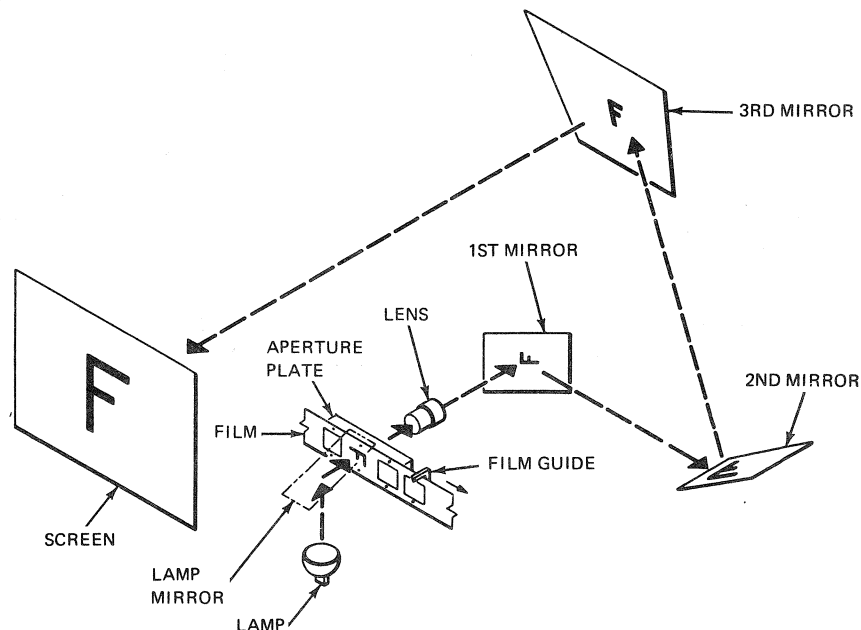
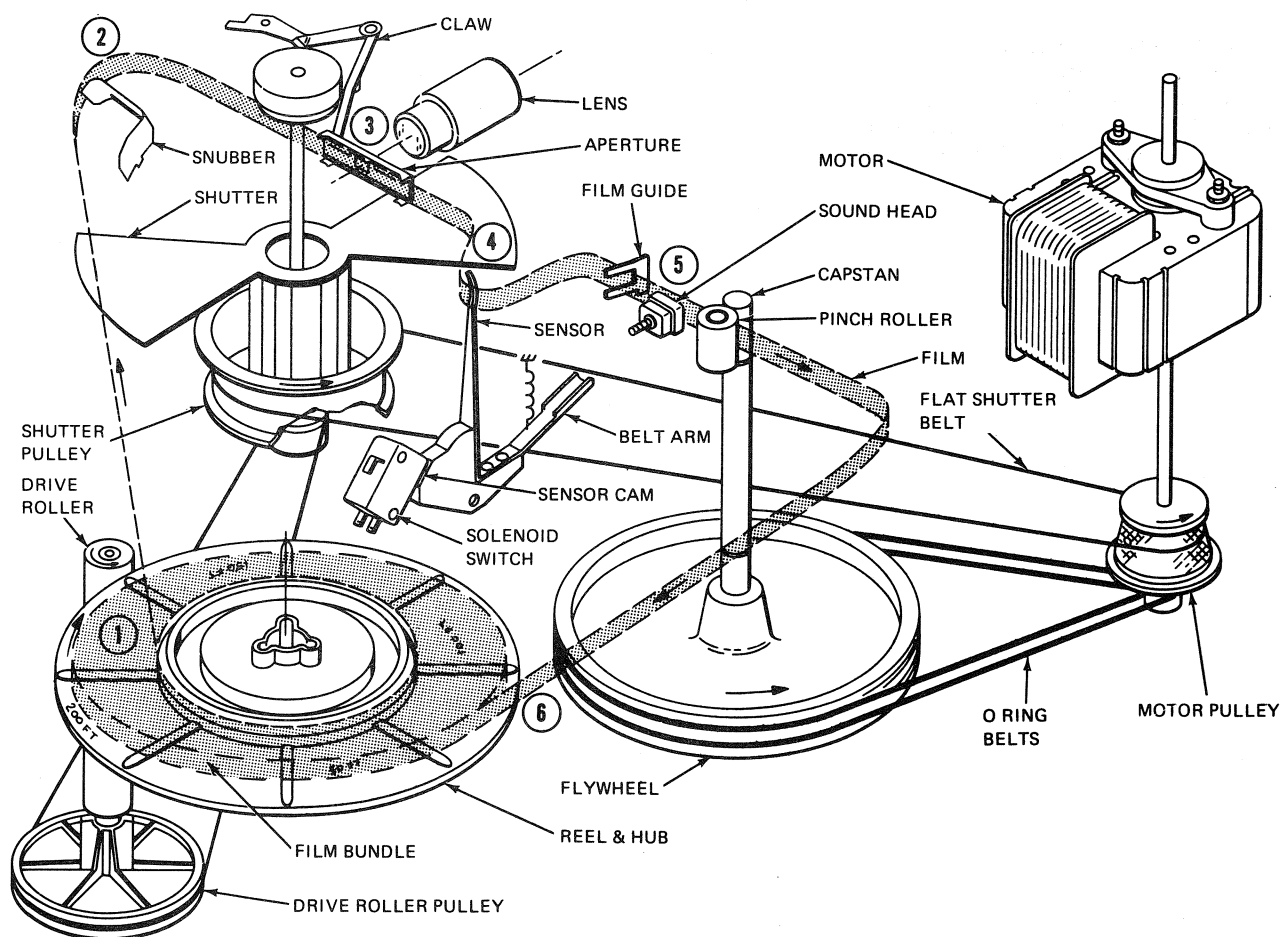

Figure 3-1. Optical System
Figure 3-2. Functional Diagram
Figure 3-2 is a simplified isometric diagram of the functional components of the projector. As shown in the figure, the projection system consists of an audio system, an optical system (see figure 3-1), an endless loop film cartridge, and a film transport system.
Progressing through the bundle (see figure 3-2); the film is taken from the inner diameter (1); past a corner snubber in the cartridge (2); past the aperture, with its motion transported intermittently by a claw (3); around a slack loop controlled by the film sensor (4); past the sound scanning head where the motion is now linear due to the capstan drive (5) and then returns to the outer layer on the reel (6).
The drive system (see figure 3-2) consists of a shaded pole motor which drives the flywheel and capstan at a constant speed via a pair of "O" ring drive belts. The motor also drives (by means of a flat belt and a pair of cone shaped pulleys) the intermittent mechanism made up of a conventional cam and claw. The speed of the cam drive is regulated by the position of the flat belt on the motor and shutter (cam) pulleys. This belt position is controlled by means of a belt arm pivotably linked to the spring loaded sensor which senses loop size and position. In addition, auxiliary power, taken from the shutter pulley by means of an "O" ring belt, is fed to the film reel in the cartridge, via a drive roll pulley and frictional drive roller.
The film transport system (see figure 3-2) is essentially a closed loop servo system both for the film bundle in the cartridge and the film being transported through the machine.